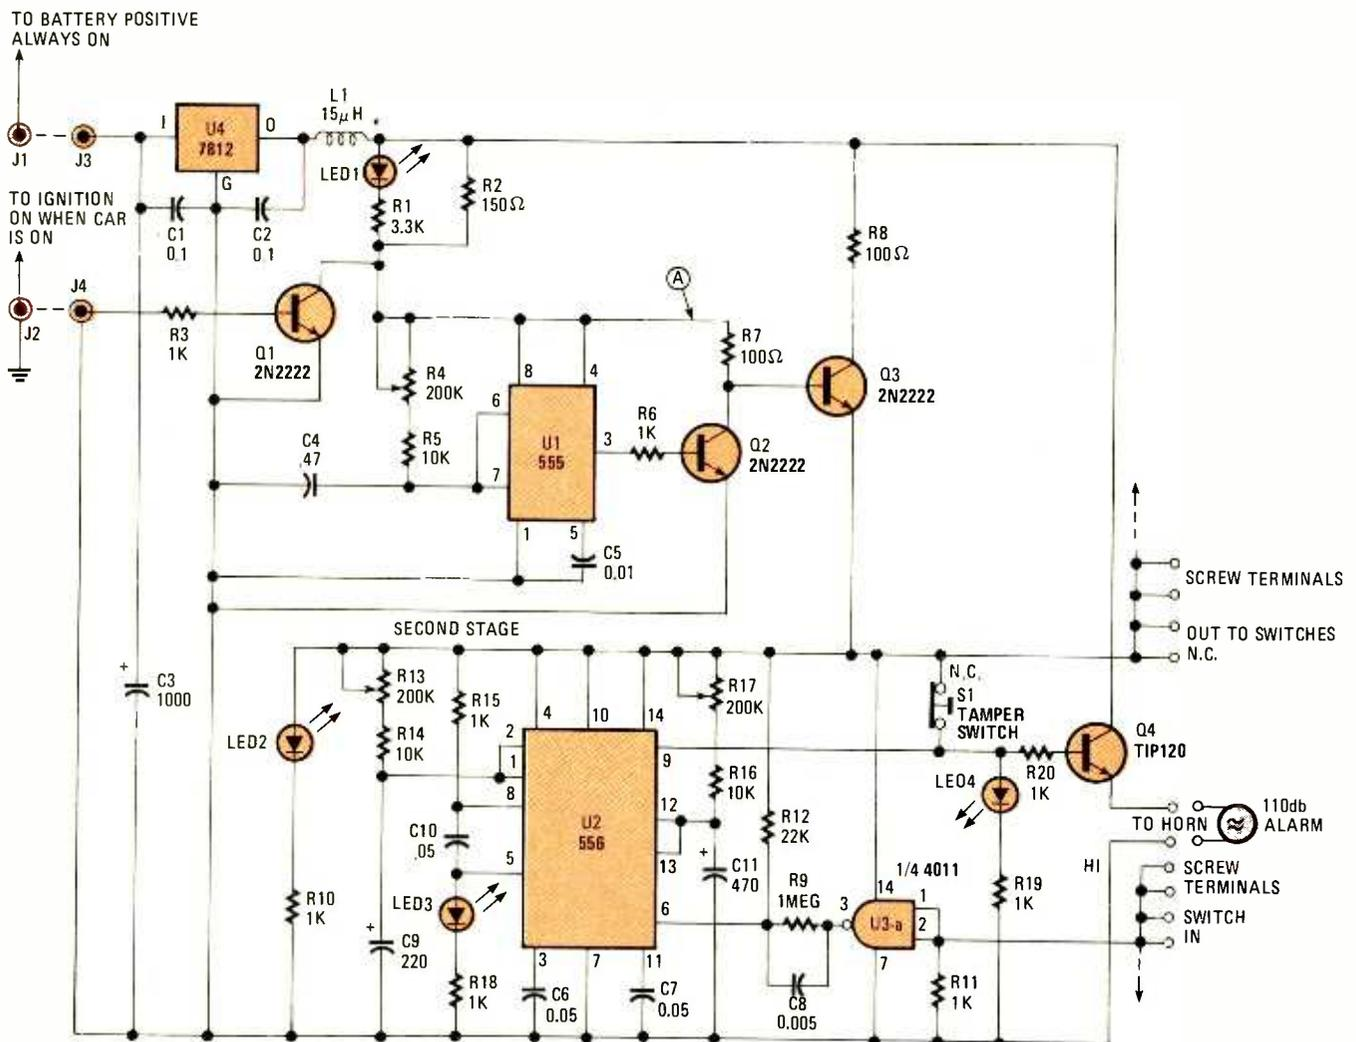

Fig. 3. This alarm circuit, intended as a grand-larceny auto deterrent, automatically turns on when the car is turned off, and has a variable time delay.
**Ultimate Alarm.** I had my car stolen, and was not about to have that experience repeated. I shopped around for car alarms, not for prices, as I was determined to build my own. I was looking for features. Finally, armed with sufficient knowledge, I designed a unit that I felt incorporated the best that the others had to offer. I'll grant that it was too complete, but the circuit shown here (see Fig. 3) omits some of those features that aren't really required. I think you'll like it.